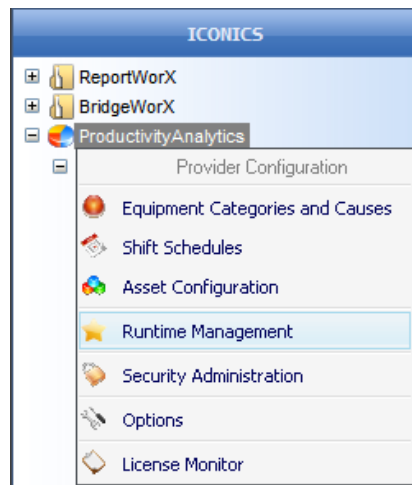

Figure L8.1 - Opening Runtime Management
2. Right-click on the **ProductivityAnalytics** provider in the navigation tree and select **Runtime Management**, as shown in Figure L8.1.